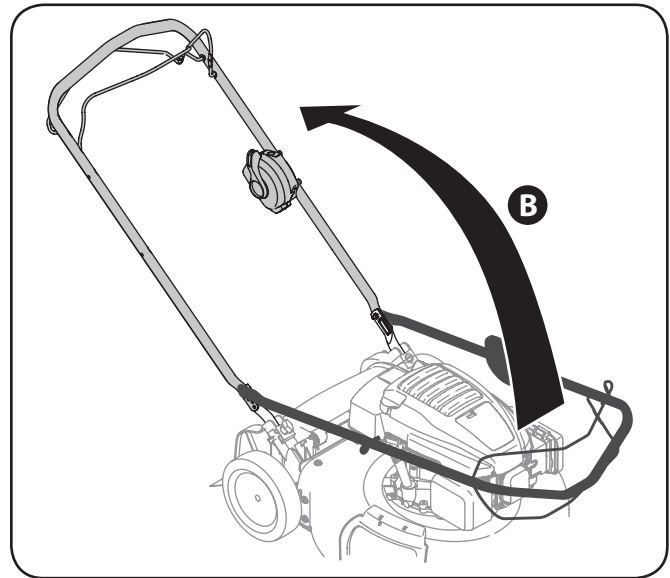

Figure 3-2
- b. While stabilizing mower so it doesn't move, pivot upper handle up as shown in Figure 3-2. Do not crimp cables while lifting the handle up and make sure they go on the outside of the handle.